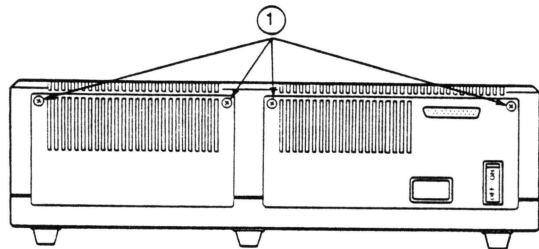

FIGURE 2
3. Turn the ProFile right side up; loosen and remove the four screws on the back of the unit and the two rear plates (Figure 2, #1).